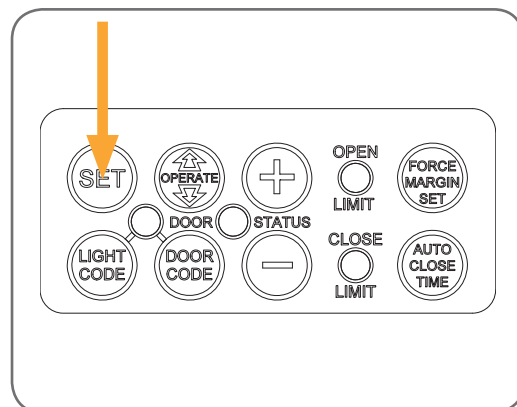

fig 37
- Press and hold the SET Button for two (2) seconds, the beeper will sound once (**Fig. 37**).
- The door will start to move and re-calculate force margins. The door can move between the open and close limit positions up to four (4) times (depending on the position of the door and the power up condition).